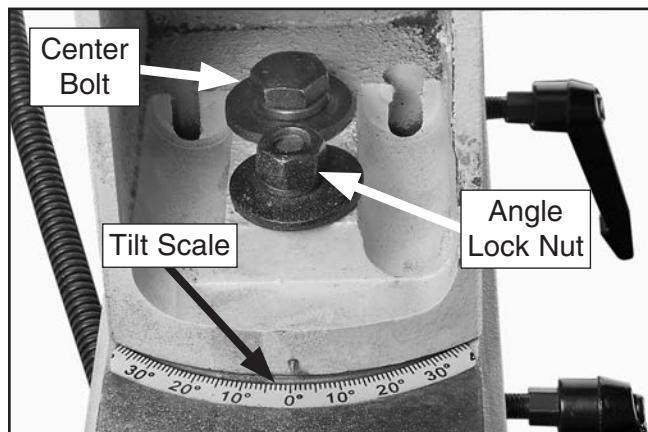

Figure 106. Headstock tilt controls.
2. Support headstock with one hand, then loosen headstock center bolt and angle lock nut (see **Figure 106**).